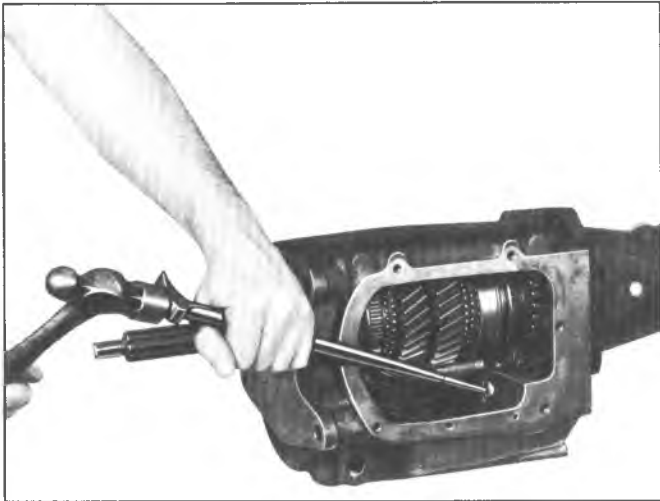

Fig. 2G--Removing Reverse Idler Shaft
5. Rotate extension to left until groove in extension housing flange lines up with the reverse idler shaft. Using a drift or other suitable tool, drive reverse idler shaft out of gear and case (fig. 2G).